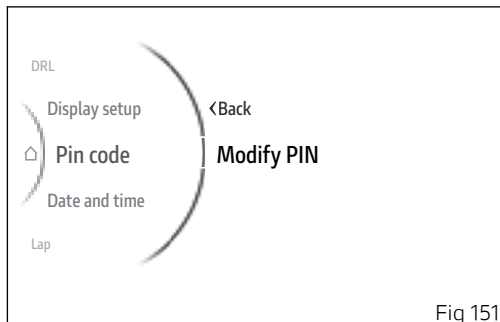

Fig 151
- From the Interactive Menu, use buttons (1) and (2) to select the item "Setting menu" and press ENTER (3).
- Select the "PIN Code" item and press ENTER (3).
- Select the "Modify PIN" item (Fig 151) and press ENTER (3).